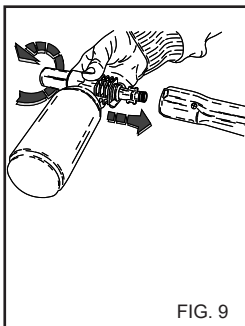

FIG. 9
2) Remove the extension tube from the handgrip and attach the detergent spray kit (fig. 9), operate the water cleaner and spray the surface to be washed, starting from the bottom and working upwards.